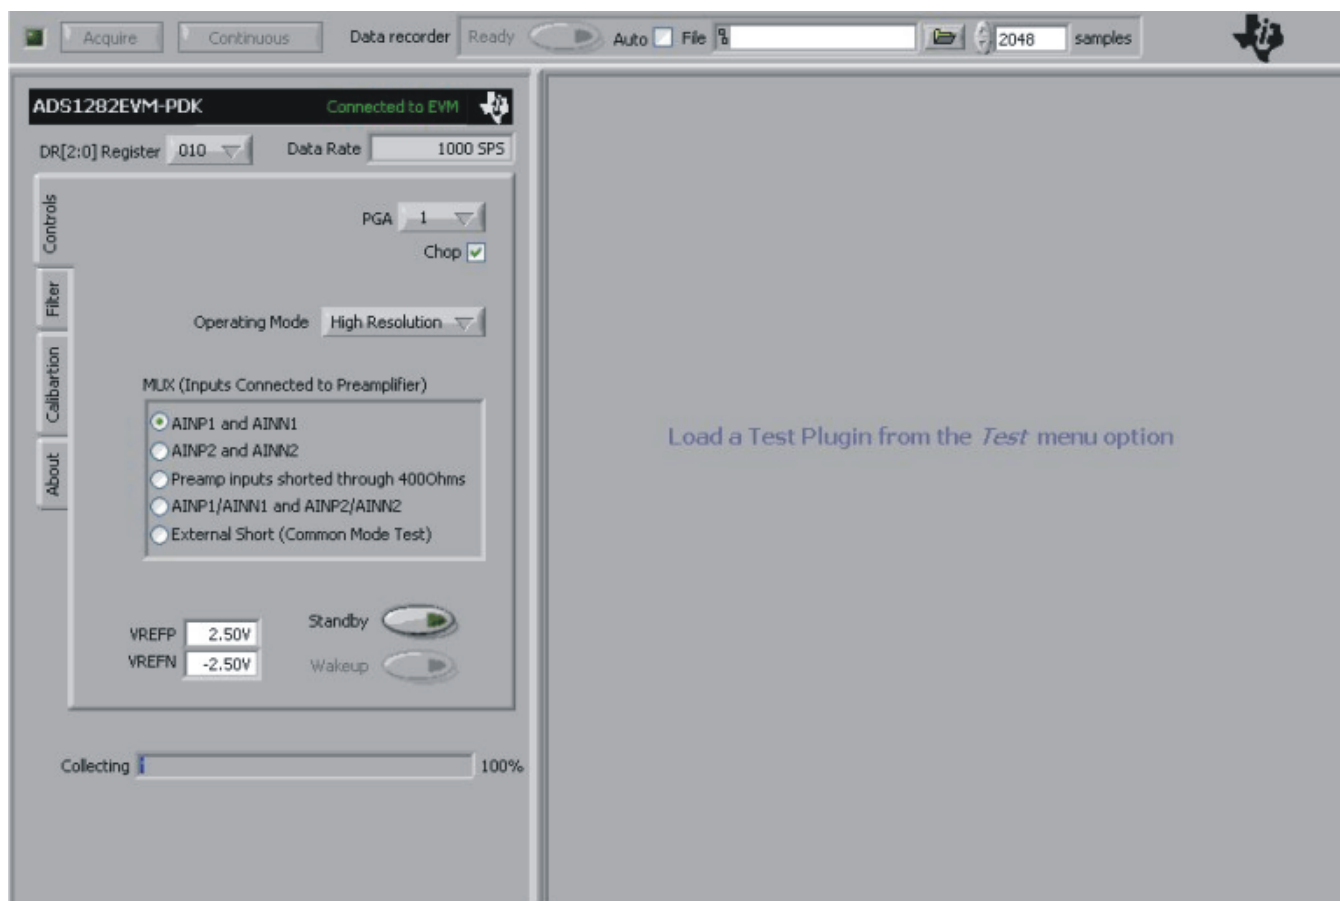

Figure 15. ADS1282EVM-PDK Plug-In Display Window
2. Select **ADS1282EVM** from the EVM drop-down menu. The ADS1282EVM-PDK plug-in appears in the left pane, as shown in Figure 15.
The ADS1282EVM-PDK plug-in for ADCPro provides complete control over all settings of the ADS1282. It consists of a tabbed interface (see Figure 15), with different functions available on different tabs. These controls are described in this section.